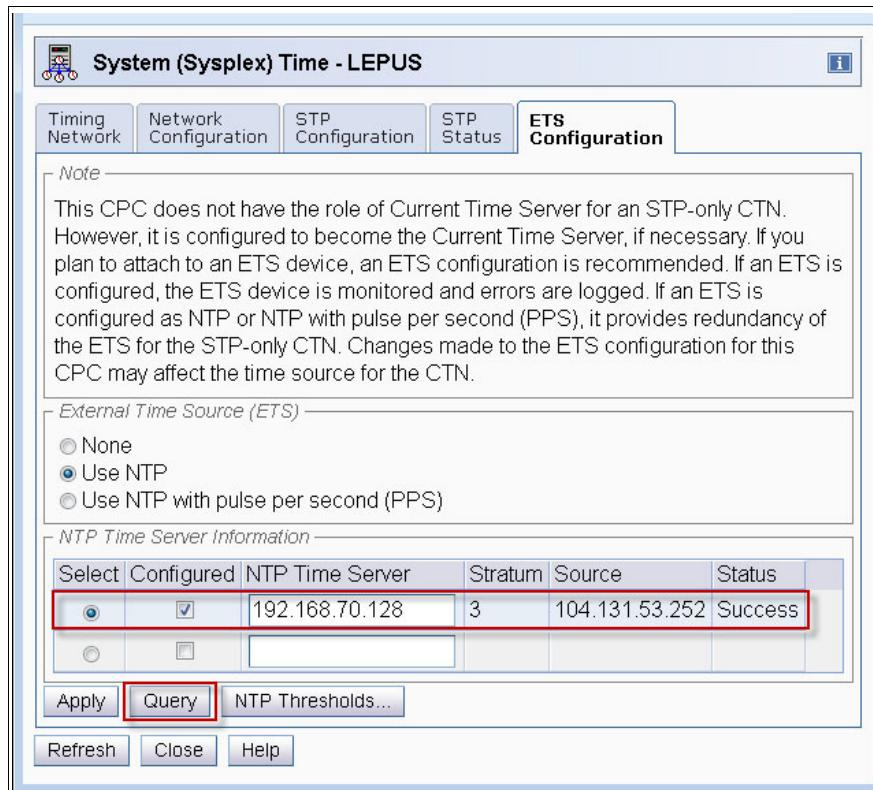

Figure 5-40 System (Sysplex) Time: ETS configuration
- 13.Click **Query** to test the defined NTP server definition, as shown in Figure 5-40.